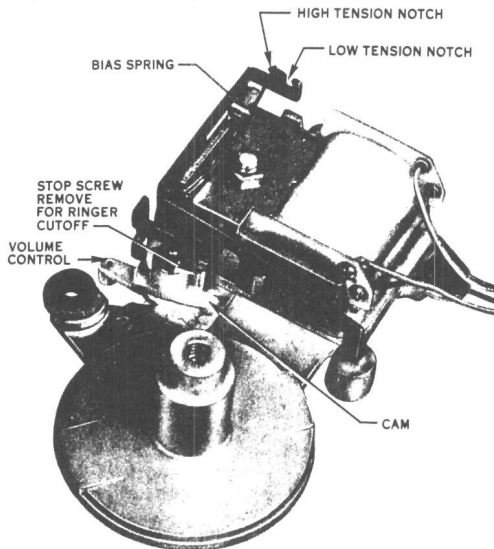

FIGURE 2 — M1A Ringer, Gong and Resonator Removed
- 1.03 Although any of the ~~ring~~ units (Figure 2) may be used with the 700 telephone, specific types have been designed with the requirements of this series of telephones in view. Each of these ringers provides adequate terminal block facilities for the external circuits of the instruments.